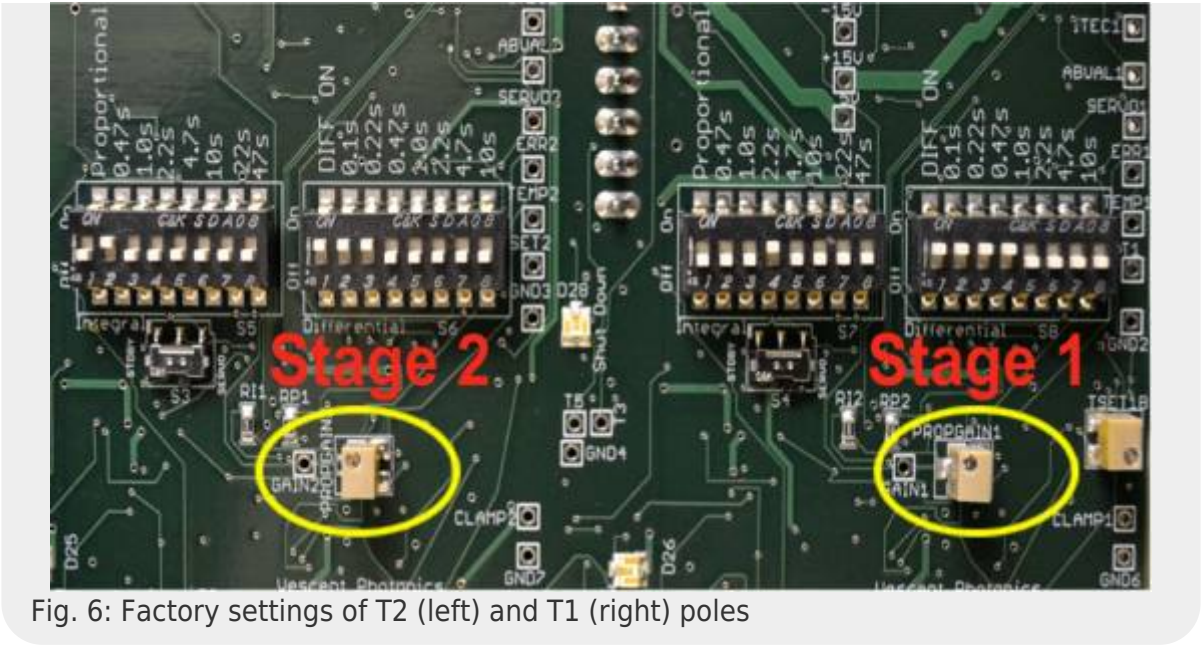

Fig. 6: Factory settings of T2 (left) and T1 (right) poles
1. Set the dip switches to the configuration shown in table 6 and table 7 and figure 6.